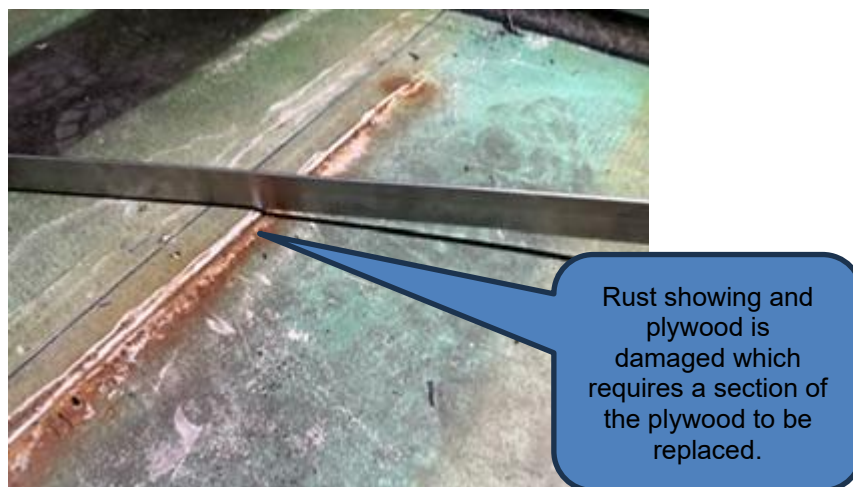

FIGURE 9: SHOWN RUST AND DAMAGED PLYWOOD – REQUIRES PLYWOOD SECTION TO BE CUT OUT.
16. After Part 1 (inspection is completed and rust is found at the bottom or the top), this will also include if the plywood piece is damaged. This section will need to be cut out and replaced. See Figure 9.